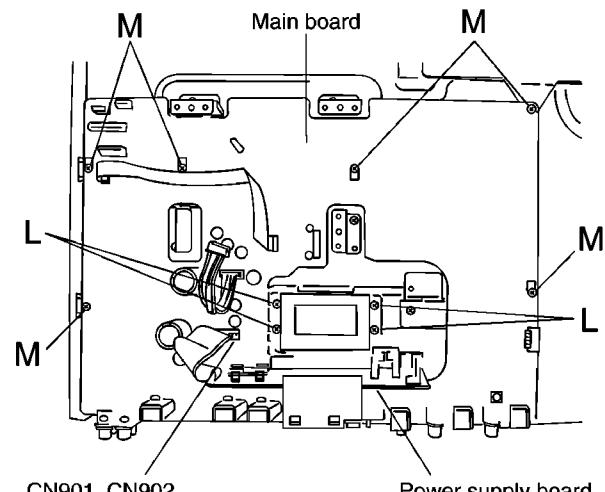

Fig.13
■ Removing the main board and power supply board (see Fig.13)